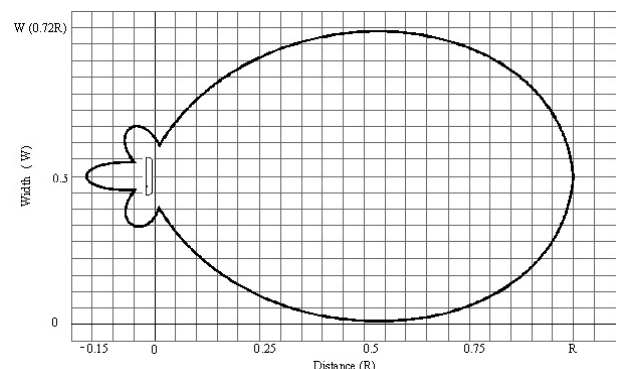

Figure 2. Effective RF Field for LR-2000 Reader
5. Results: Tags should read about 3 reads per second, inside the “balloon” (Figure 2). All tags should read to 15 feet or more.